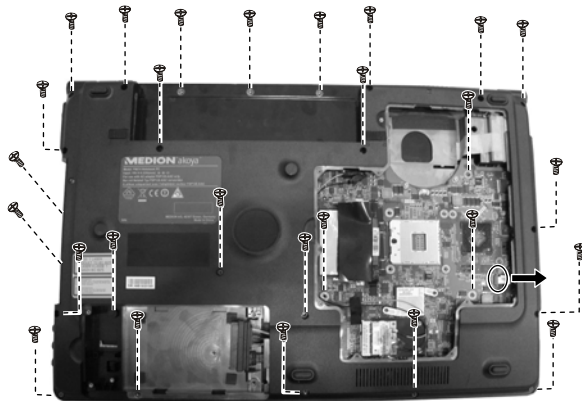

Figure 2-13 Remove twenty-seven screws and disconnect one cable
2. Remove twenty-seven screws and disconnect one cable. (Figure 2-13)